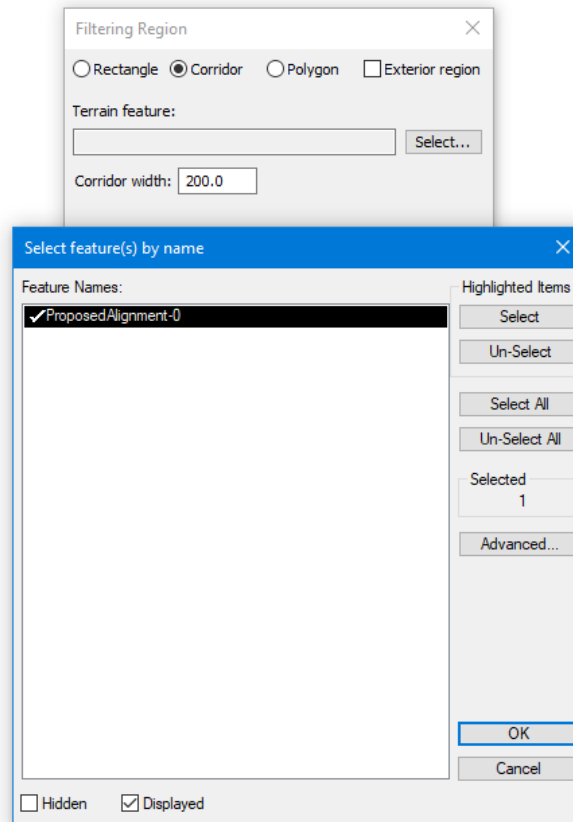

Figure 6-11: Defining a Corridor with a Linear Feature
5. Select *Corridor* (similar to how we thinned on import in the previous example – see Figure 6-11). Then press *Select...*